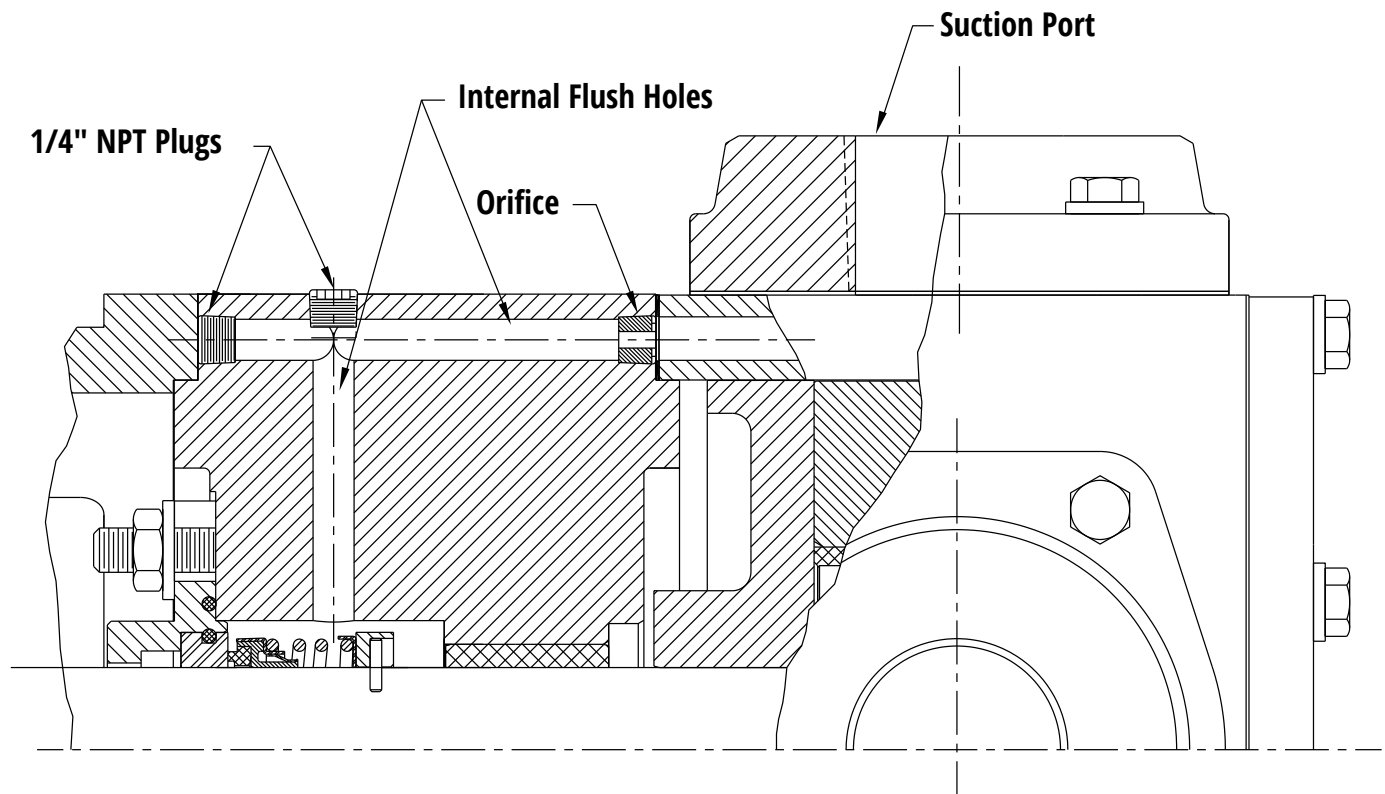

Figure 4 – Internal Seal Vent
**Note:** The standard bracket for the GlobalGear pumps provides a vent to the seal chamber from the suction port of the housing (see Figure 4). Position the bracket so the vent hole lines up with the hole in the housing by the suction port. See Table 4 for proper torque specifications.